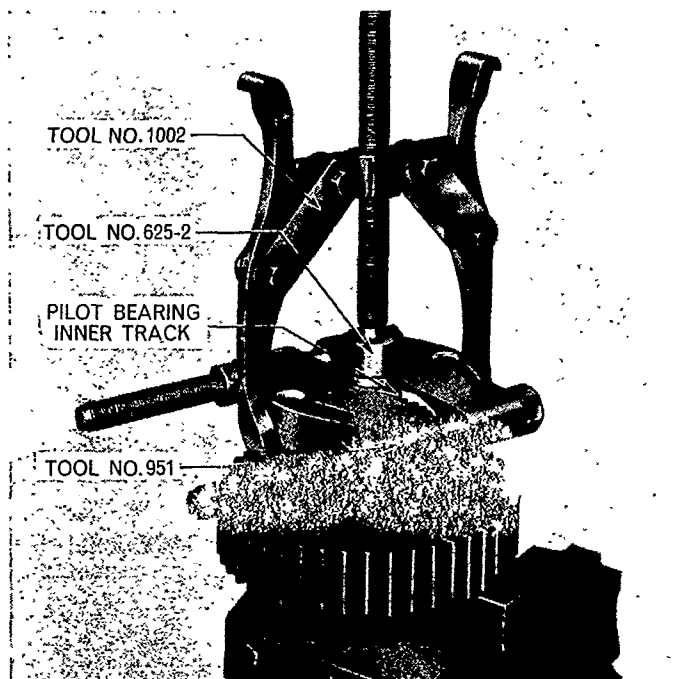

Figure 23
6. Inspect the output shaft pilot bearing and if necessary remove the pilot bearing from the output shaft using Tools Nos. 1002, 951 and 625-2, Figure 23.
NOTE: In order to obtain sufficient grip on the pilot bearing inner track, the rollers can be easily pulled from the bearing inner track assembly using a pair of pliers. Tool No. 951 is then mounted on the inner track groove. (See Figure 23).